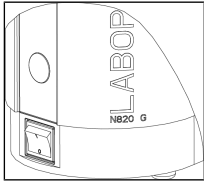

Fig. 6: Switching the pump on and off with power switch
- Switch on the pump with the power switch (see Fig. 6).